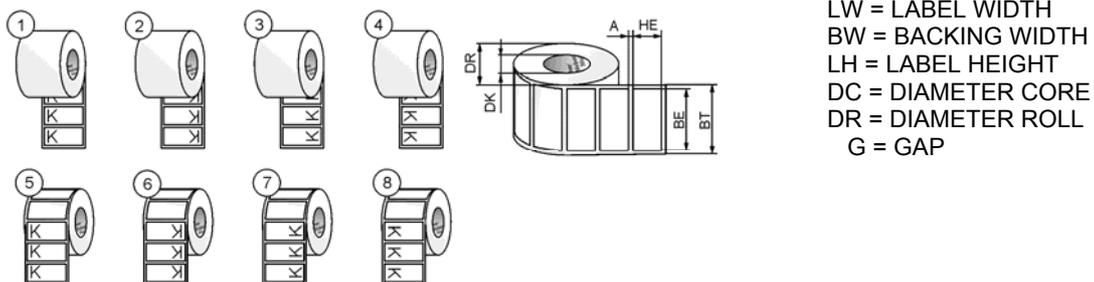

Fig. 6-7: Label Execution
The Legi-Air 4050E only provides (without additional option) the usage of label rolls with outside winding, i.e. with the view on the roll the labels adhering at outside of the label liner (s. Fig. 6-7, examples 5 - 8). Only thus the function of the roll brake is ensured.
- The labels stick at the label roll at the outer side of the label liner (s. Fig. 6-7, examples 5 - 8).